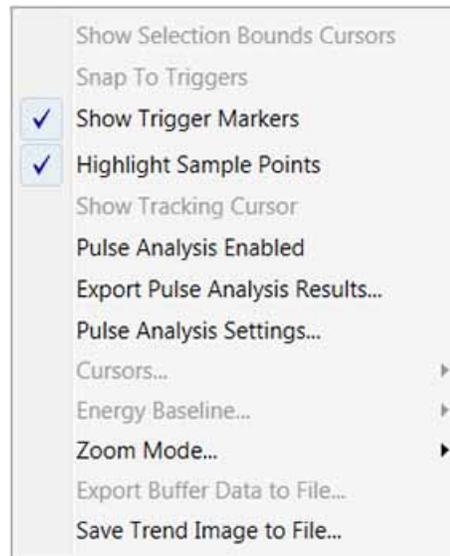

Figure 6-21. LPEM – Select Trending Chart Menu Options
- Right-click in the Trending window to display the context menu. Click to select the menu options shown in Figure 6-21: